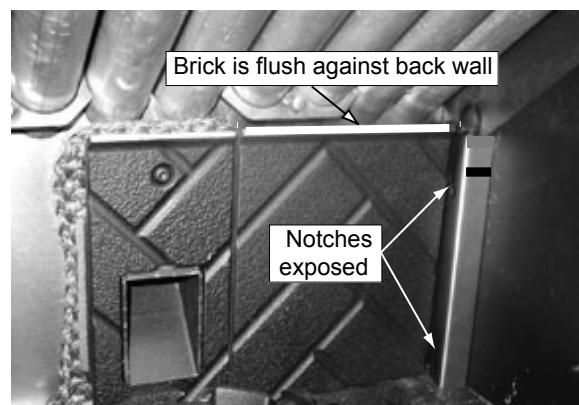

Figure 39.5
2. The brick will be flush against the back wall and notches exposed in the side bracket. **Figure 39.5.**